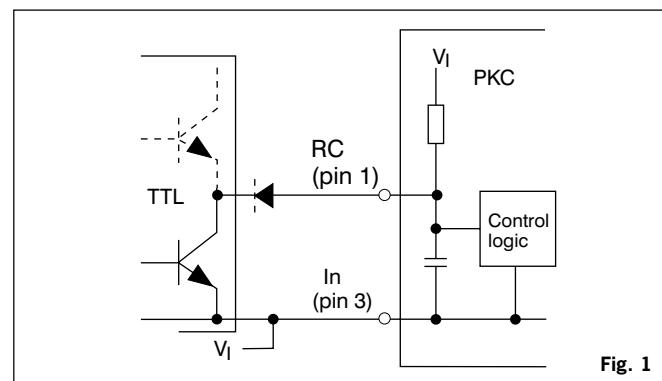

Fig. 1
Turn-on or turn-off can be realized by using the RC-pin. Normal operation is achieved if pin 1 is open (NC). If pin 1 is connected to pin 3 the PKC DC/DC power module turns off. To ensure safe turn-off the voltage difference between pin 1 and 3 shall be less than 1.8 V. RC is TTL open collector compatible (see fig. 1). Pin 1 is an output and no current should be driven into pin 1. Use a diode if necessary e.g. totem pole TTL logic. The internal pull-up resistance is 15 k Ω .